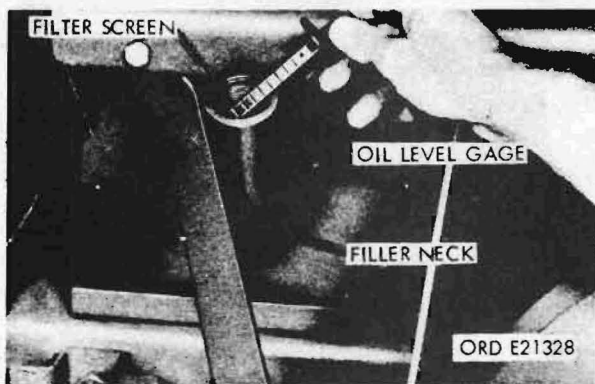

Figure 59. Hydraulic hoist subframe reservoir oil level gage
- (4) Hydraulic hoist subframe reservoir oil level gage (fig. 59). The hydraulic hoist subframe reservoir oil level gage, located in the filler neck of the subframe reservoir, is unscrewed to measure the level of the fluid in the subframe reservoir.